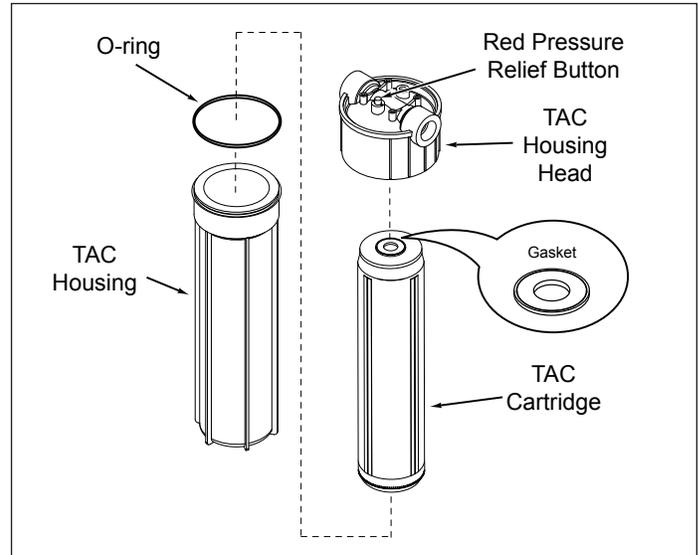

Figure 1. Replacing the TAC Cartridge
1. Unscrew the TAC Housing counter clockwise to remove the housing from the system (Figure 1).
4. Lubricate the O-ring with an approved food grade lubricant and install onto the housing (Figure 1).
NOTE: Make sure the end seal gasket is in place on the end of the TAC Cartridge (Figure 1). The gasket fits on the end of the cartridge in the recessed groove. Be careful that the gasket does not fall off when installing the TAC Cartridge
7. Screw the TAC Housing (containing the new TAC Cartridge) into the TAC Housing Head (Figure 1). Tighten the housing until it stops. The housing will come to a hard stop at the end of the thread. Use the Filter Wrench, if necessary. Do not overtighten.